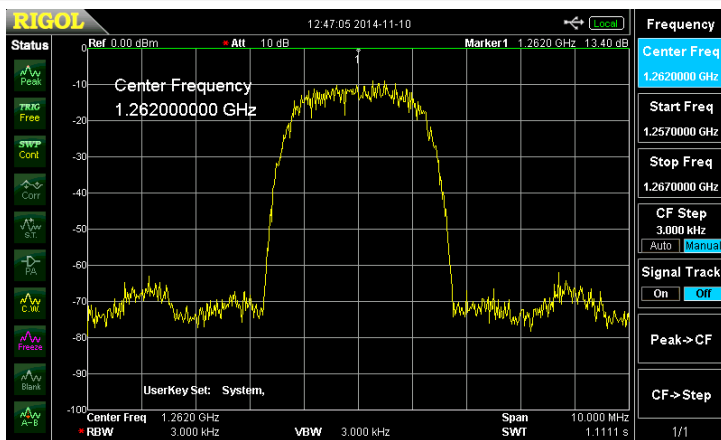

Figure 10 – Spectrum Analyzer display of DATV-Express driving a Kuhne 1.2 GHz RF Power Amp rated at 1W (FM)
The RF coming from the DATV-Express hardware board driven by the ODROID should not be any different than when the board is being operated with a full-size PC. To confirm this, I hooked up a model MKU-P1301A first-stage RF Power Amp made by Kuhne (in Germany). This RF amp is rated at 1 W (FM) and is the same amplifier that I used to bench test the DATV-Express board driven by a PC. As expected, **Fig10** shows that same reasonably shaped DVB-S “haystack” that was also produced when testing with Ubuntu on a PC.
The average output power measured in **Fig10** was about 40 mW...enough to easily drive my DownEast second-stage RF PA (30 W FM) on the 1.2 GHz to about 6-to-8 W average power out.